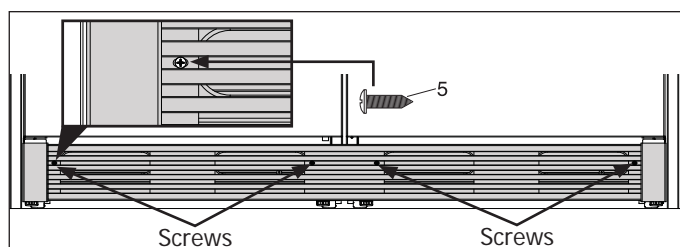

Figure 2-31.
(Dual Unit) Attach the kick plate to the cabinet with four (4) screws. (See Figure 2-31)